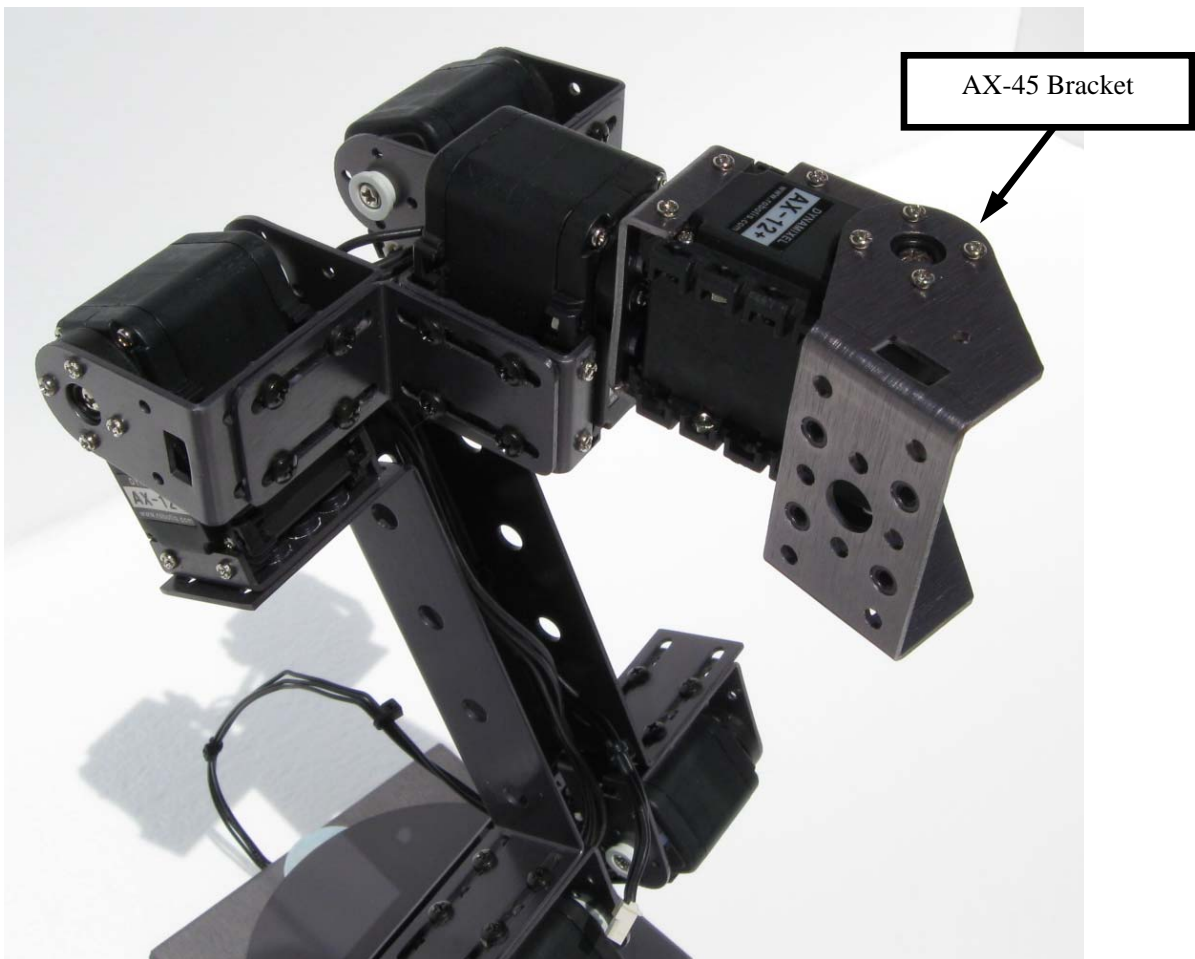

Figure 7
7. Using (4) #2 (1/4") screws, (1) pivot set screw, pivot and pivot spacer, install the AX-45 bracket to the assembly in step 6 as shown in figures 7, 8 and 9. Ensure that the AX-45 bracket is mounted to the left side of the gripper servo as shown in figure 7.